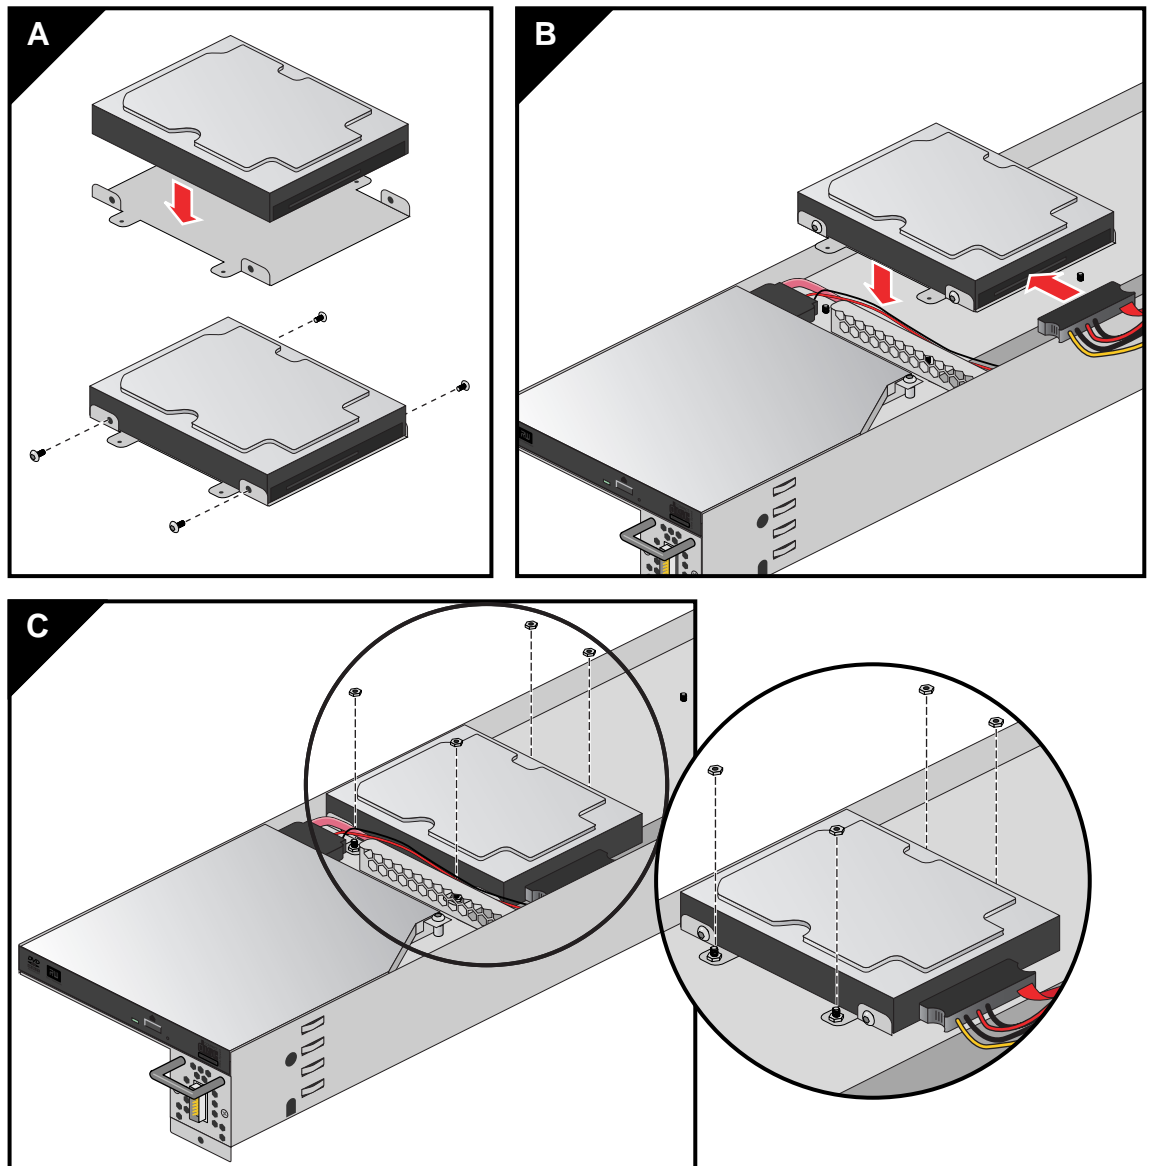

Figure 5-11 Install New Disk Drive Example
10. Align the four holes in the new drive's sled with the four screws on the system drive tray. Be sure that the new drive's power/data connector is facing towards the interior of the IRU where the drive interface cables are routed. See Figure 5-11 on page 71 for an example.